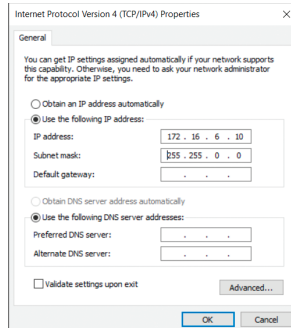

Fig. 2
4. On IPv4 properties screen, select **Use the following IP Address** option (Fig. 2).
5. Enter the following IP address: 172.16.6.xxx (any number). As you can see in the above image (Fig. 2), the first 3 number sets (172.16.6) in IP Address field need to be the same as the Junction Box IP address. You can only change the last number set with any number from 1 to 254. Click in the Subnet Mask area, which should auto-complete. Click OK.